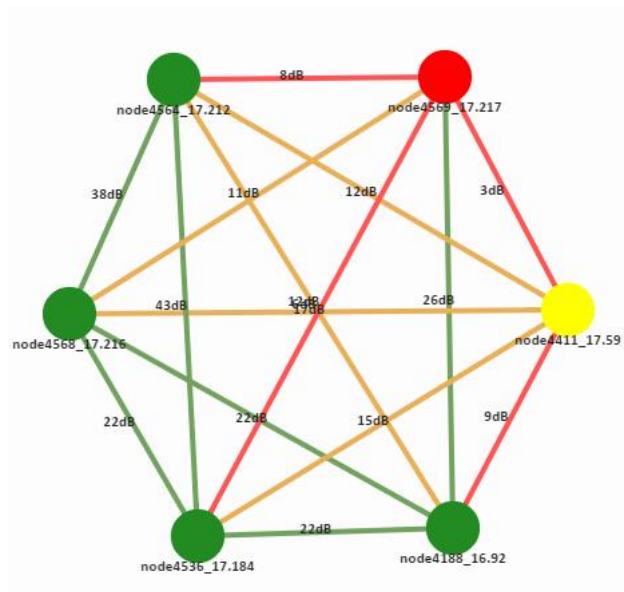

Figure 38 Example Network Topology
- **Color Coded Link Health** – Color coding of each link in the network allows the user to quickly identify the weak links within a network. A link between two nodes will transition from green to yellow to red as the link weakens while also displaying the SNR of the link. This can be seen in **Figure 38**.
- **Route Health** – The Silvus StreamScape Utility will alert the user when too many packets are being routed through a single node. In such cases, a node will change from green to yellow to red as the packet queue increases (see ‘node4411’ and ‘node4569’ in **Figure 38**). This will allow the user to recognize the issue and rearrange the network accordingly.